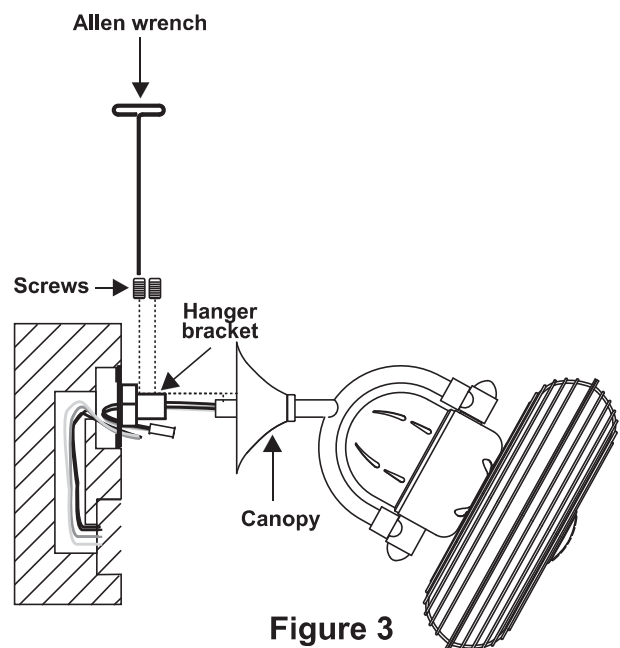

Figure 3
3. Verify that the set screws in decorative canopy are fully retracted. Not retracting them will cause unsightly scratches in the beautiful finish of the goose neck during installation. Leave the protective plastic sleeves in place on the goose net. (Fig. 3)